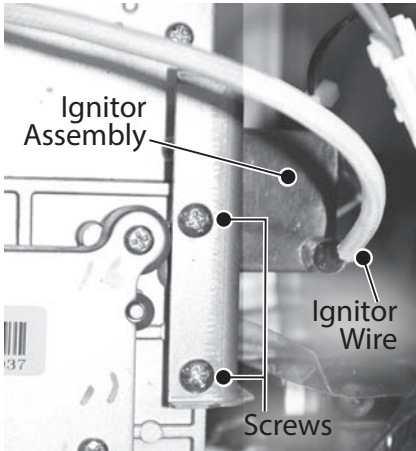

Figure 32 - Ignitor assembly location
- 8 Locate the ignitor assembly on the right side of the water heater. Remove the two screws securing the ignitor assembly and bracket to the gas manifold. Place screws aside in a safe place for reinstallation. See Figure 32.